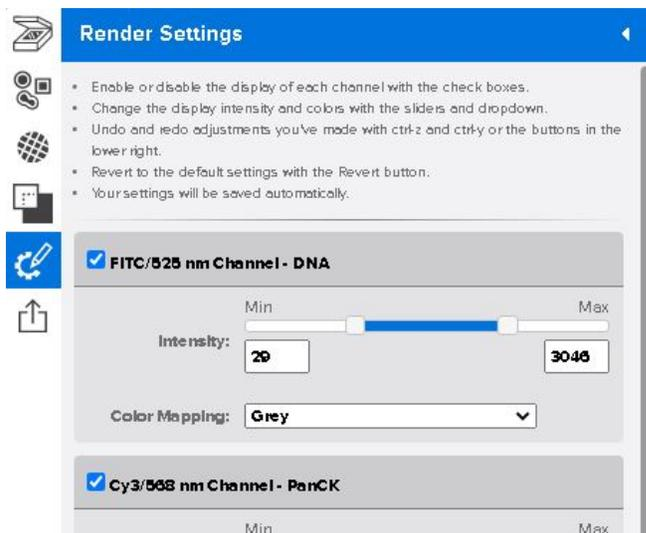

Figure 30: Scan Workspace Render Settings menu
- Open **Render Settings** (Figure 30). Here, you can: